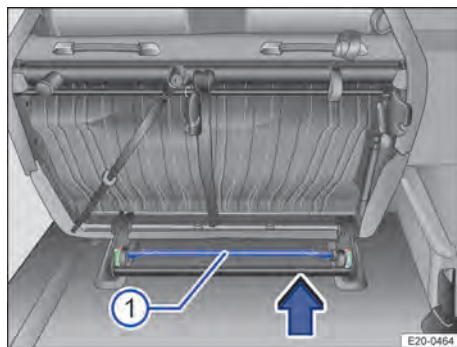
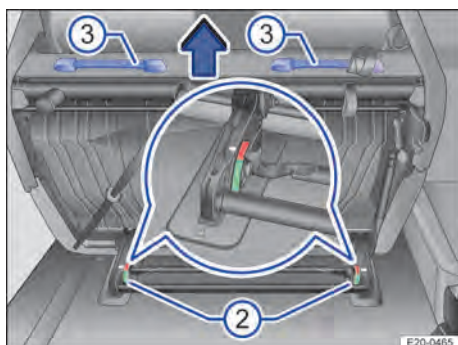

Fig. 73 Second row of seats: Removing the two-seat bench.
Fig. 74 Second row of seats: Removing the two-seat bench.
3. Pull the rods → Fig. 73① in the direction of the arrow until both locking marks → Fig. 74② are in the red area.